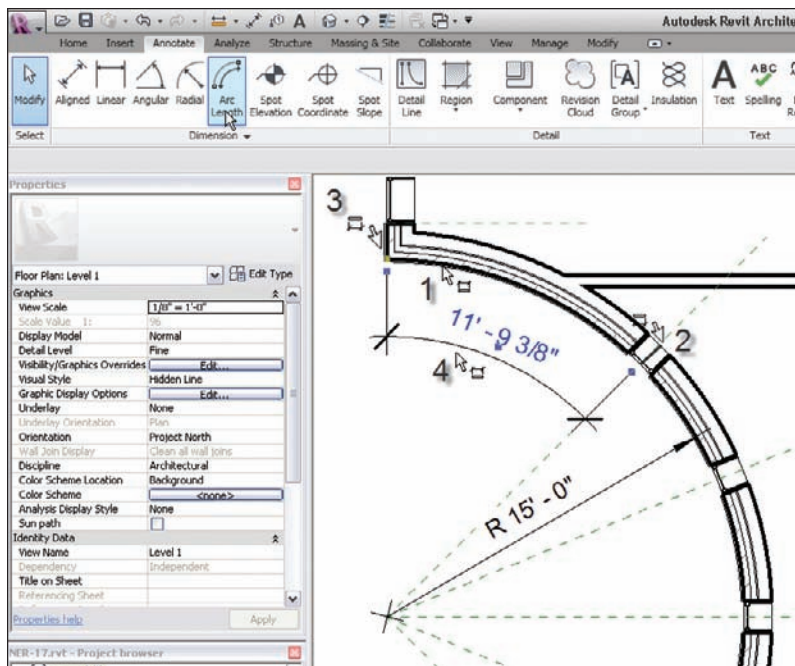

FIGURE 5.23 Placing an Arc Length dimension involves four separate picks.
1. Zoom in on the west radial entry of the west wing, as shown in Figure 5.23.
2. On the Annotate tab, select the Arc Length button, as shown at the top left of Figure 5.23.
5. Pick a point along the exterior face of brick that runs along the vertical intersecting wall, illustrated as “3” in Figure 5.23.